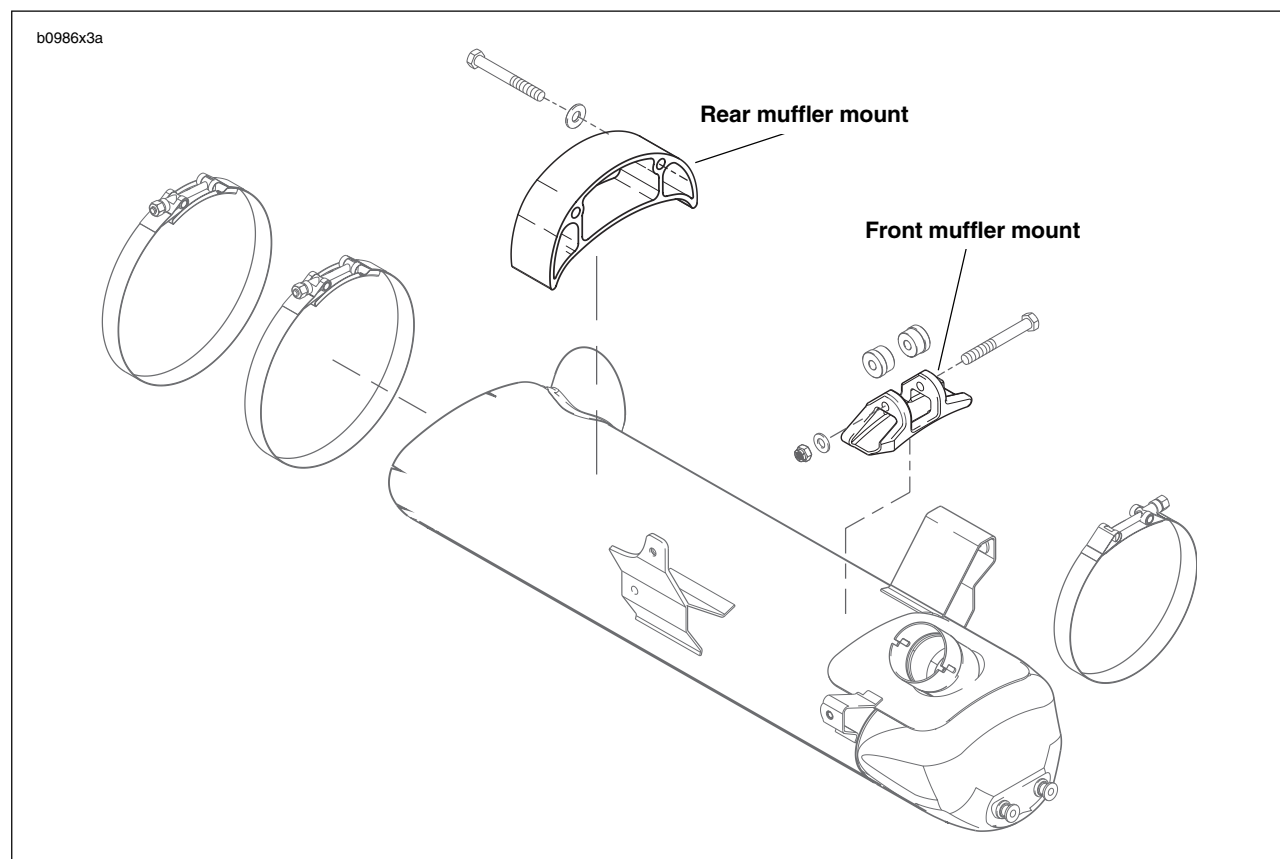

Figure 3-46. Muffler Mounting System
18. See Figure 3-46. Install rear muffler bracket and torque to 32-36 ft-lbs (43.4-48.8 Nm).